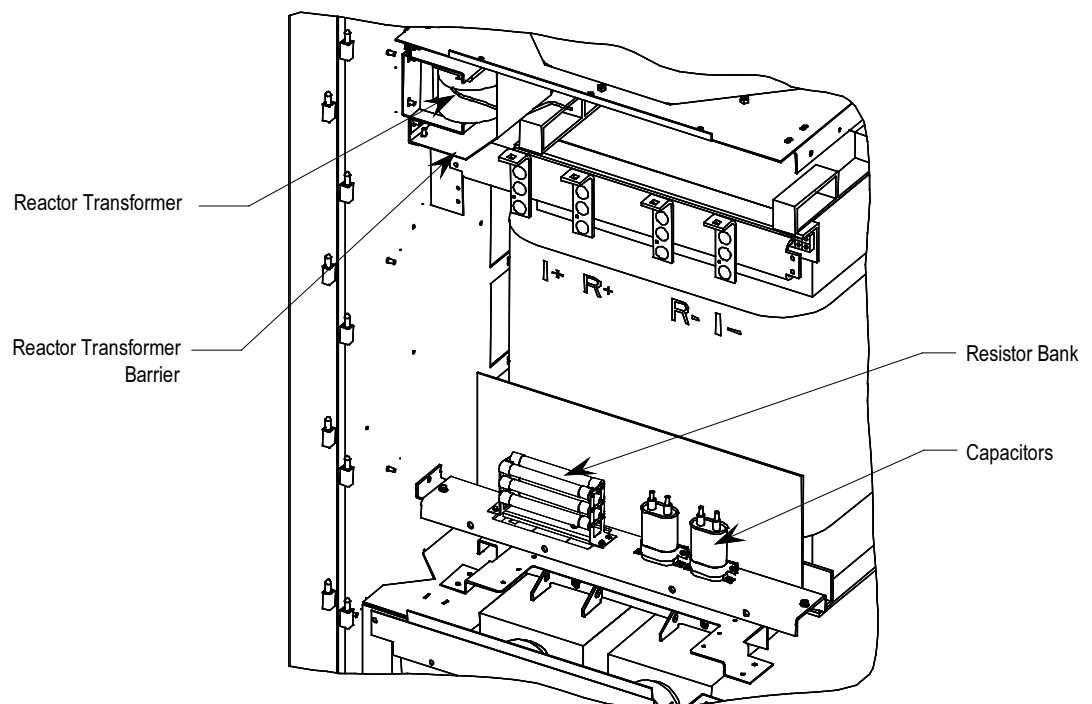

Figure 5.33 – Ground Filter Component Replacement
4. Loosen and remove mounting screws as indicated in Figure 5.33 and remove the failed component.